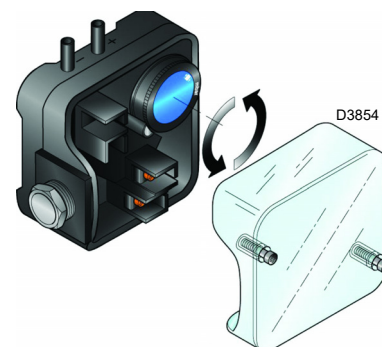

Fig. 48
- Adjust the air pressure switch (Fig. 48) to the start of the scale.
For the RLAS 1000-1200 burner model, the air pressure switch is connected in absolute mode and is activated by the positive pressure from the fan (Fig. 48).
Adjust the air pressure switch (Fig. 48) after having performed all other burner adjustments with the air pressure switch set to the min. of the scale.